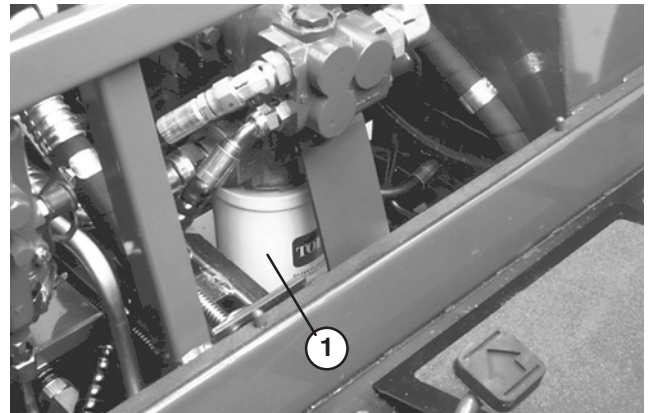

Figure 41
2. Clean area around filter mounting area (Fig. 41). Place drain pan under filter and remove filter.